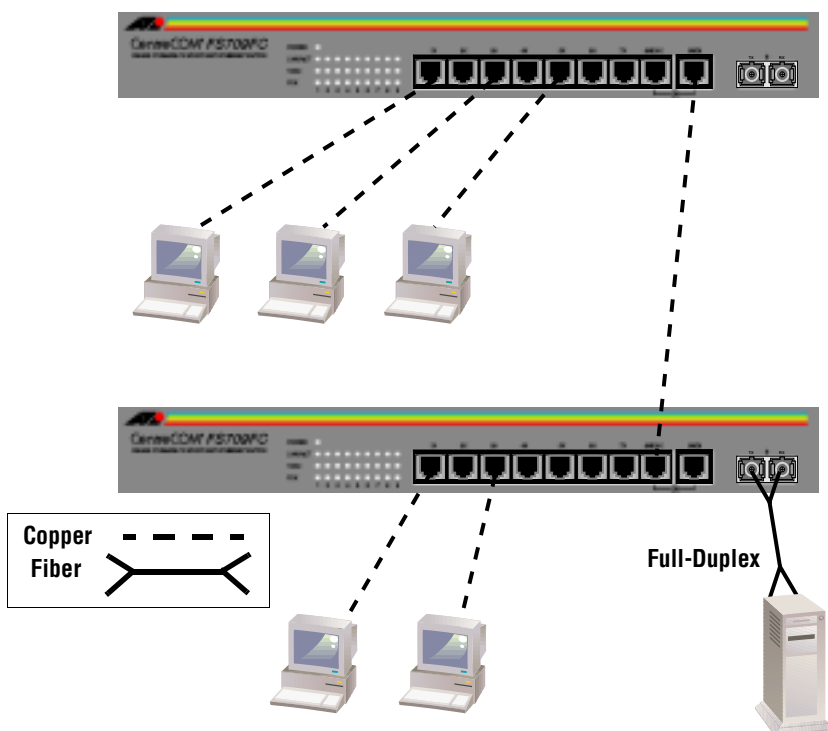

Figure 4 Cascading Switches
2. Use a straight-through UTP RJ45 cable to connect the first switch to the second switch. See Figure4.